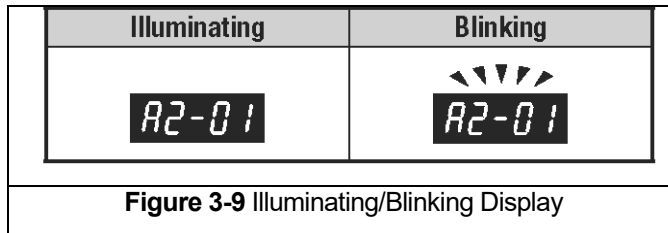

**Figure 3-8** VFD Keypad/Display Interface
- 3.6.4 The VFD is controlled by a Keypad/Display Interface. Refer to **Figure 3-8** for Keypad/Display Interface functions and descriptions.